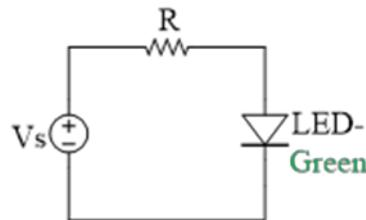

Figure1.
2. Consider the circuit of Figure 1. For any positive value of Vs, the diode should be forward biased. Once Vs exceeds the threshold voltage, the difference between the source and the threshold voltage drops across R. Thus, as Vs increases, so does the LED current and hence its brightness.
Build the circuit of Figure 1 using $R = 1 \text{ k}\Omega$ and the **LED- green**.
1. Build the circuit in the schematic (Figure1 in Prelab2) on the breadboard. Two $500\ \Omega$ resistors are replaced by a W102 potentiometer.